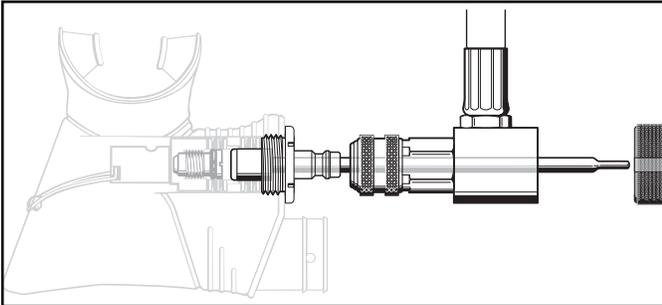

Figure 28
1.4.2 Mate the knurled coupler of the Inline Adjustment Tool over the shaft which is installed inside the quick disconnect fitting. Retract the coupler to connect the tool onto the fitting. Then, fit the adjustment knob onto the end of the shaft while being careful to avoid engaging the crown (see Fig. 28).